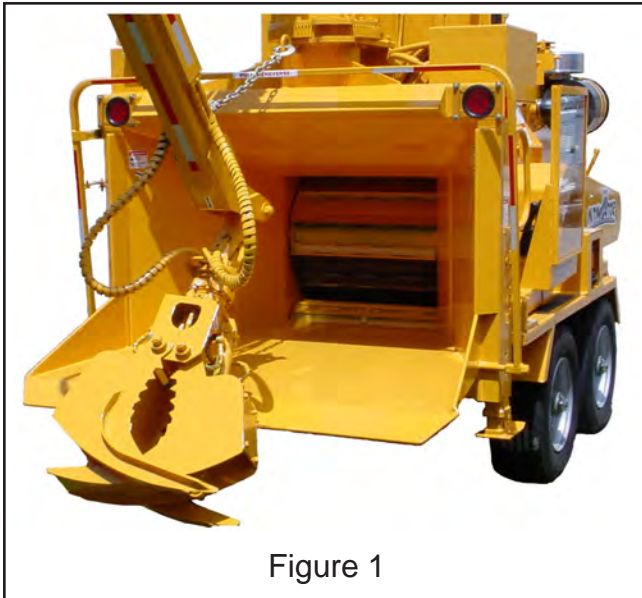
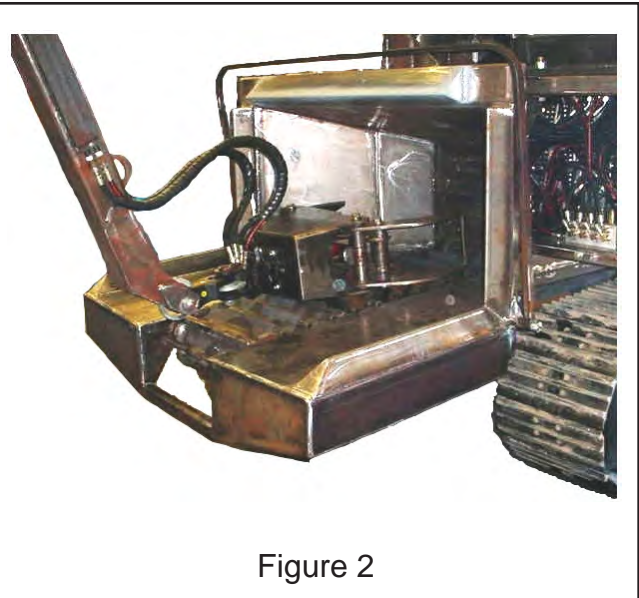

Figure 1
Figure 2
Install 5/16" (7.9 mm) diameter cable to pull and feed from the bottom of the winch drum (See figure 2). Remove excess bolt length on cable bolts after cable is secured to the spool.
5. Make sure everyone is clear and then retract the clutch lock pin and then pull the clutch handle up to engage the winch clutch (See Figure 1). Make sure handle is locked in position.
The chipper hood engine disable plug is located on top of the chipper hood (see figure 1). The chipper engine disable plug is made up of two parts: an electric socket and a plug connector (see figure 2). The electric socket is bolted to the chipper engine disable plug mount bracket (see figure 3) and the plug connector is attached by a cable to the hood pin (see figure 4).
The spring lock is located on the side of the chipper hood. The top of the spring lock should be directly behind the hood pin washer when the hood pin is properly installed in place holding the chipper hood in the closed position (see figure 1).
With the chipper hood shut and hood pin in place the spring lock helps keep the hood pin from sliding out or from being removed if the chipper disc is turning. There is a shaft cam block installed on the chipper shaft which will not allow the spring lock to be pulled down if the chipper disc is turning (see figure 2). When the chipper disc is turning, if the spring lock was to be pulled down or recessed it would simply hit the shaft cam block bouncing the spring lock back into position not allowing for the removal of the hood pin.
- 4) Tuck grapple onto infeed hopper as shown in Figure 1 to help prevent damage to the hydraulic hoses and fittings. If the machine is equipped with a conveyor option, tuck grapple onto infeed hopper as shown in Figure 2. **Make sure the fittings and hoses are not in a pinched or wear position for transportation.**
- 5) Securely attach transport chain to the jib boom as shown in Figure 1.